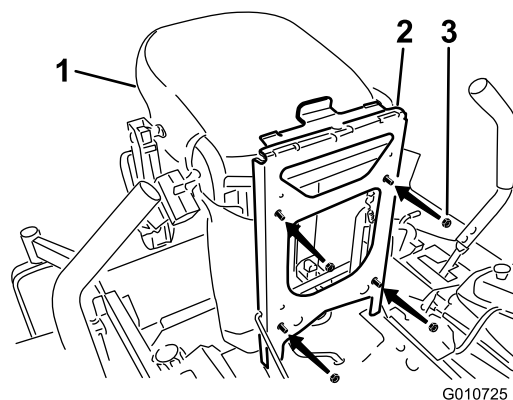

Figure 9
4. Position the new seat into the seat frame (Figure 9).
5. Secure the seat to the seat frame with 4 flange nuts (5/16 inch) (Figure 9).